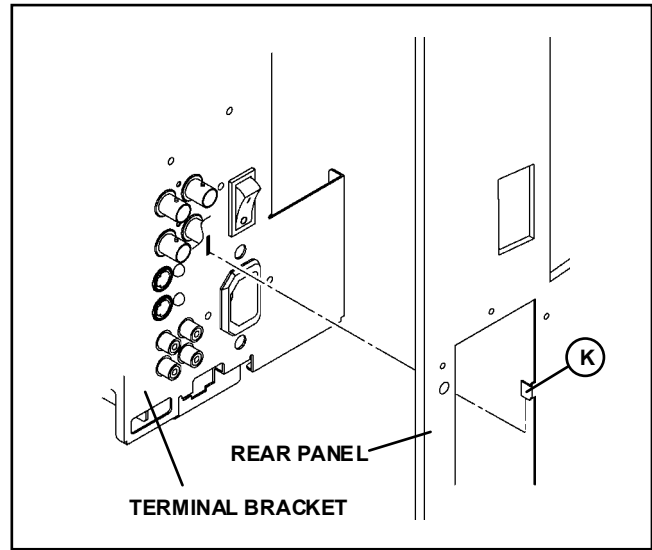

Fig.1
- 1. Remove the 8 screws marked (B) .
- 2. Remove the screw marked (C) attached the FBT.
- 3. Remove the screw marked (D) attached the SIGNAL PWB with the terminal bracket.
- 4. Remove the 5 screws marked (E) attached the terminals with the terminal bracket.
- 5. Remove the screws marked (F) and (G) attached the slot holder with terminal bracket.
- 6. Remove the screw marked (H) attached the terminal bracket with the chassis base.
- 7. Remove the 2 hexagonal screws marked (J) attached the D-SUB terminal with the terminal bracket.
- 8. As shown in Fig. 1, lift the rear panel and remove the claw marked (K) from the terminal bracket.
2) The SET-UP MENU screen (Fig. 1) will be displayed.
(5) Check and set MENU items